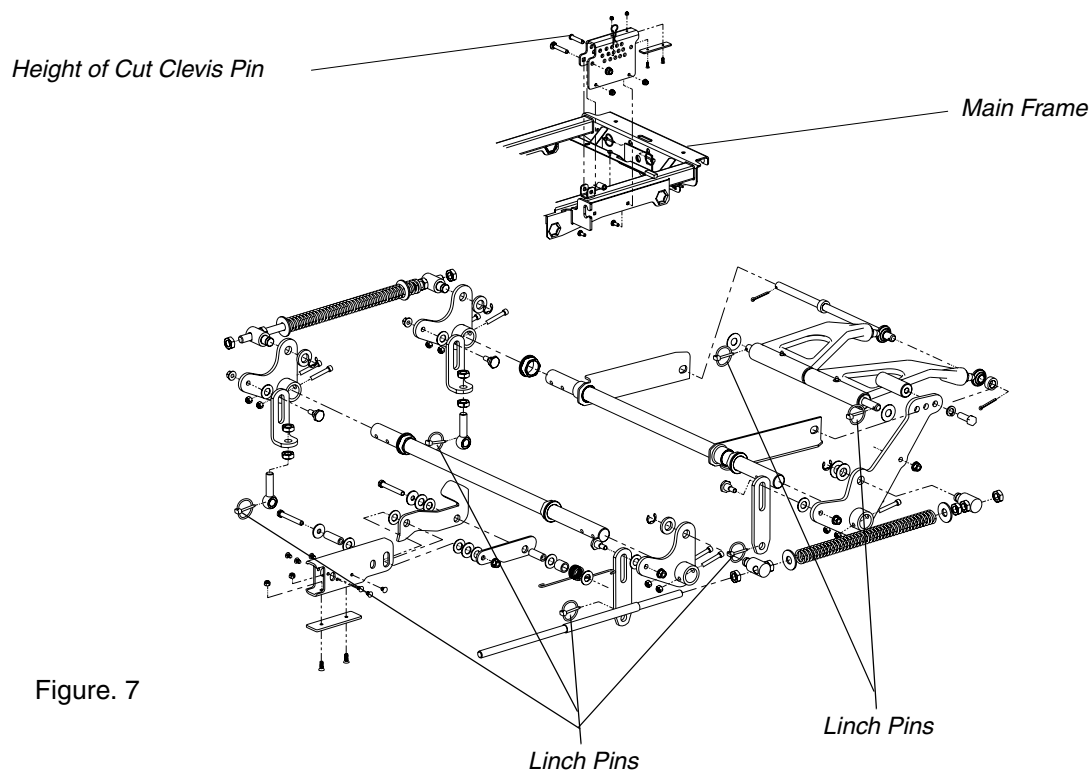

Figure. 7
- e. Remove six linchpins (See Fig. 7) (4) from the deck and (2) from the front of the mower. Remove the linchpins on the left and right rear side of the cutter deck (2); remove the linchpins on the left and right front side of the cutter deck (2); and remove the linchpins on the front of the mower (2).